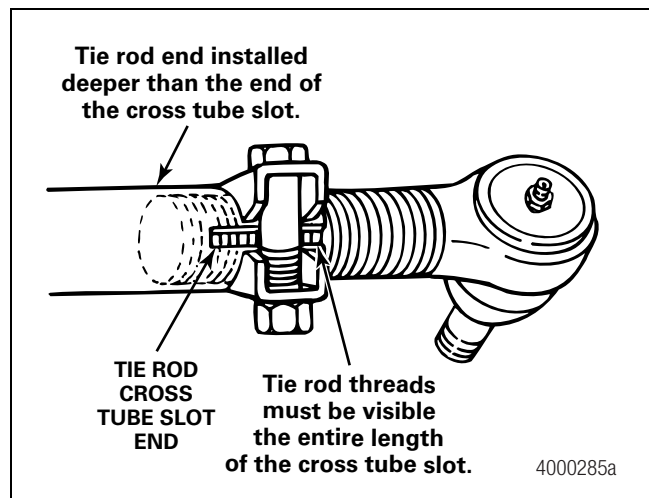

Figure 3.19
6. Check that the tie rod end is threaded correctly into the cross tube and installed deeper than the end of the cross tube slot. The tie rod end must be visible the entire length of the cross tube slot. Figure 3.19.